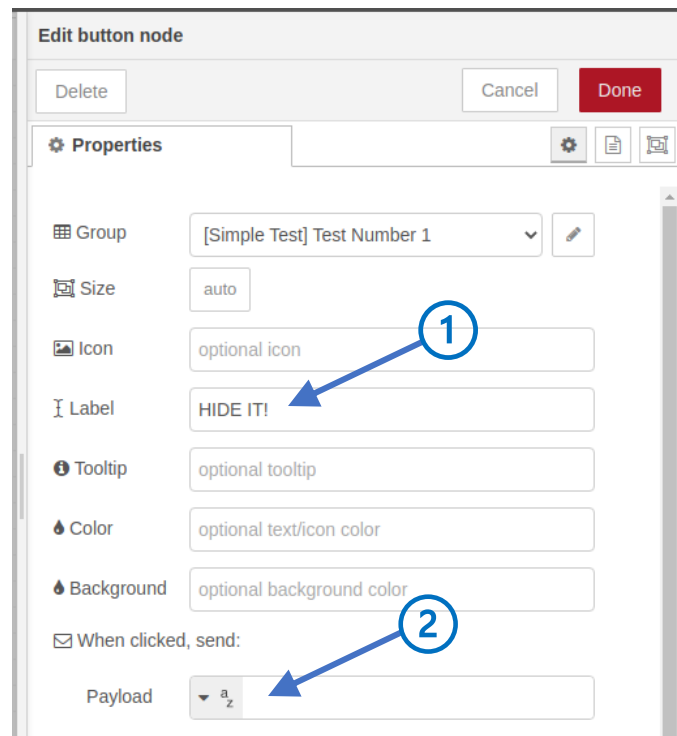

Figure 5-142: HIDE IT! Button Node Configuration
- **Color** – Go back to Figure 5-128 and Figure 5-142. You can specify the color of your button text using the color box. Type in a common color name59 and see what the button looks like. Remember: you must DEPLOY before the change will take effect.